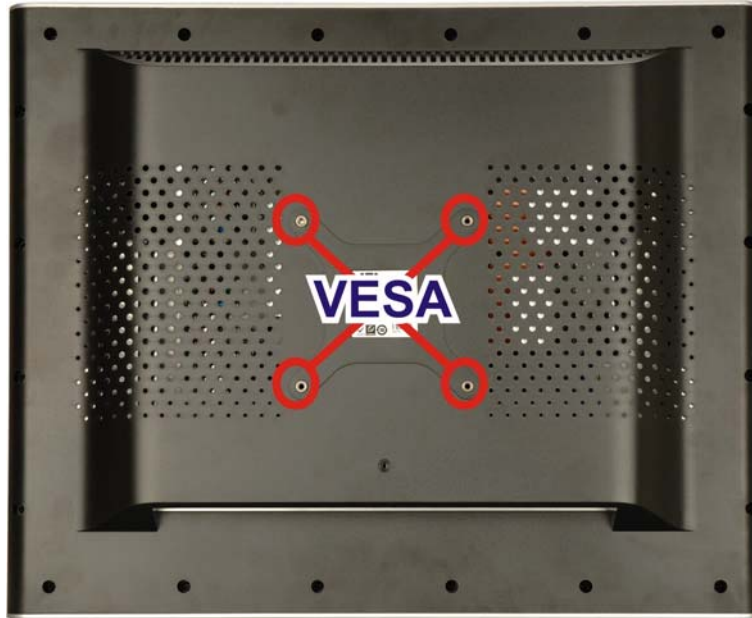

Figure 3-16: Arm Mounting Retention Screw Holes
Step 3: Align the retention screw holes on the mounting arm interface with those in the flat panel PC, as shown in **Figure 3-16**.